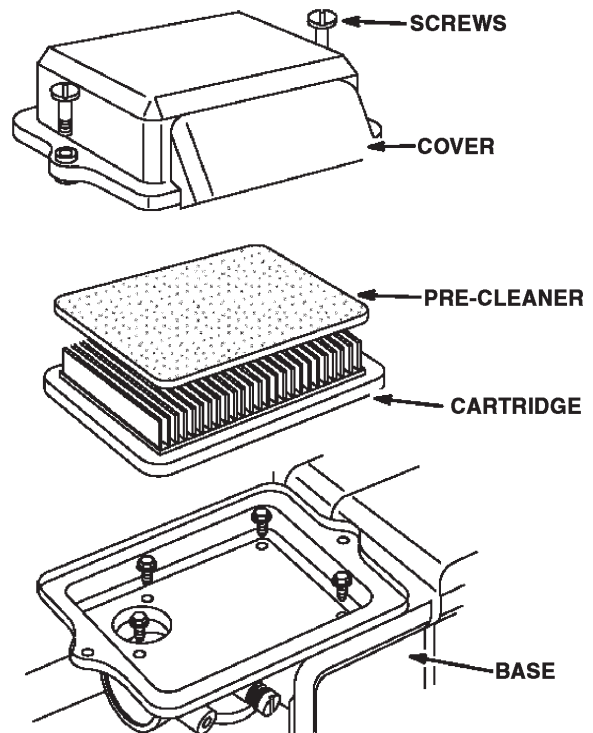

Figure 34. Engine Air Cleaner
- Remove the air cleaner cover and foam filter element as shown in Figure 34.